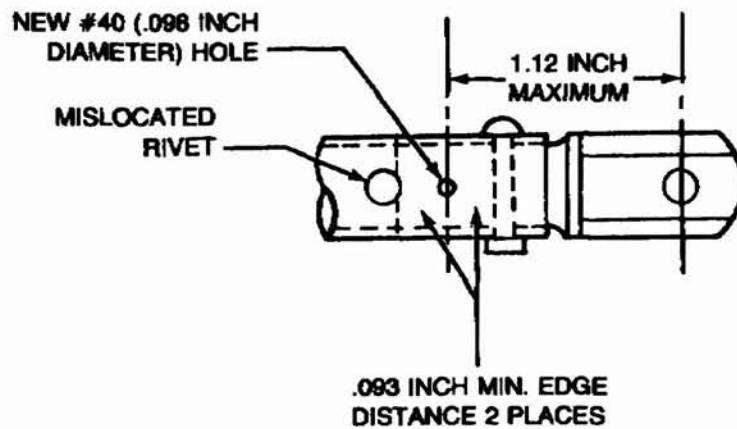

Figure 2.
6. Drill a #40 (.098 inch diameter) hole centered not more than 1.12 inches from the center of the bolt hole. Maintain at least a .093 inch edge distance from either existing rivet (see figure 2.).